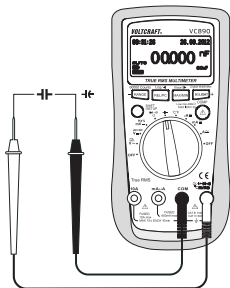

Fig. 8
2. Insert the red test lead in the  $\text{^{\circ}CHzV}\Omega$  measuring socket (7), the black test lead in the COM measuring socket (8) (Fig. 8).